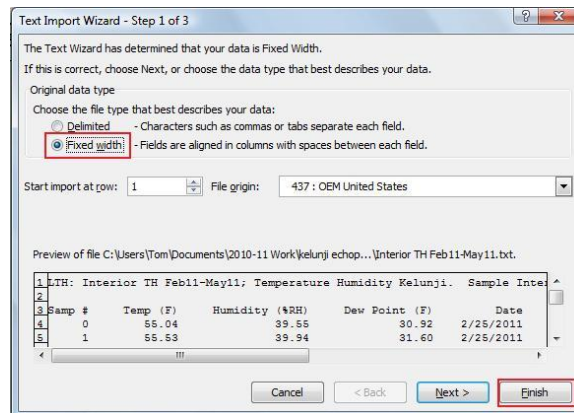
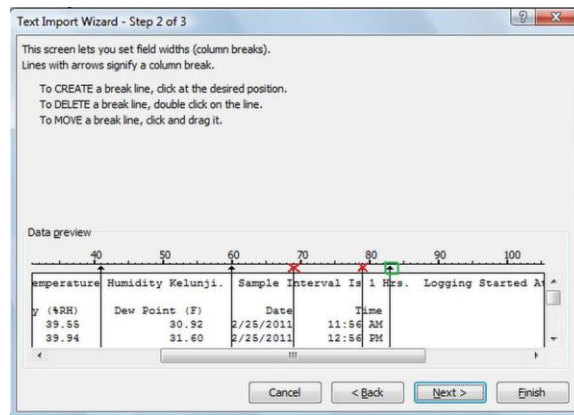

Figure 30: Excel Text Import Wizard with Correct Options Highlighted
Figure 31: Excel Text Import for SUPCO data
2. **Locate** and **Open** the following files. For the hourly_averages file, select fixed width in the text input wizard shown in Figure 30 and click finish. For the temperature data, select fixed width and click next. Then, as shown in Figure 31 double click and eliminate the two columns between date and time and create a column on the right side of time.